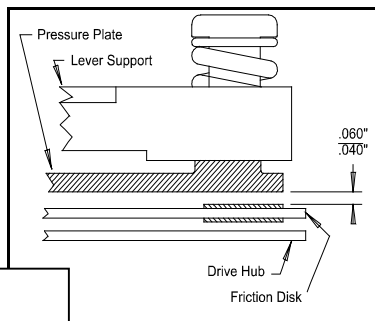

Figure 5
- Do not exceed the limits per Fig. 5